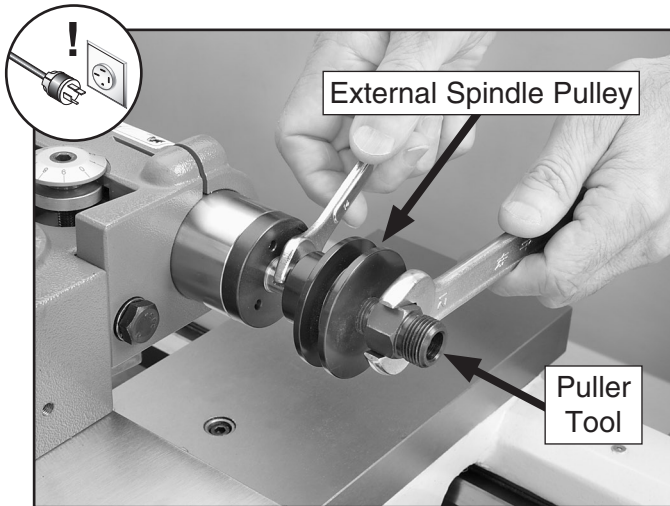

Figure 16. Removing the external spindle pulley.
- Use the puller tool as described in **Step 5** on **Page 17** to release the external pulley from the spindle taper (see **Figure 16**), then remove the pulley.